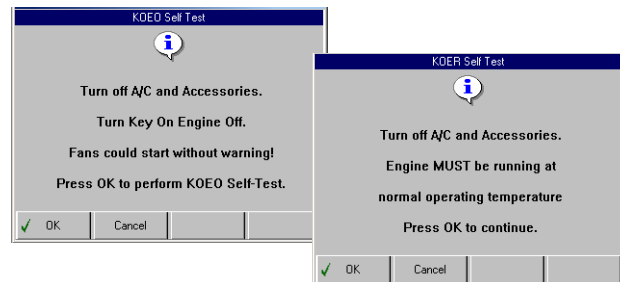

Figure 7.12: KOEO and KOER Self Test Instruction Screens
- 2 Select **KOEO Self Test** or **KOER Self Test** and press the **ENTER** key. This displays a test instruction screen (Figure 7.12).